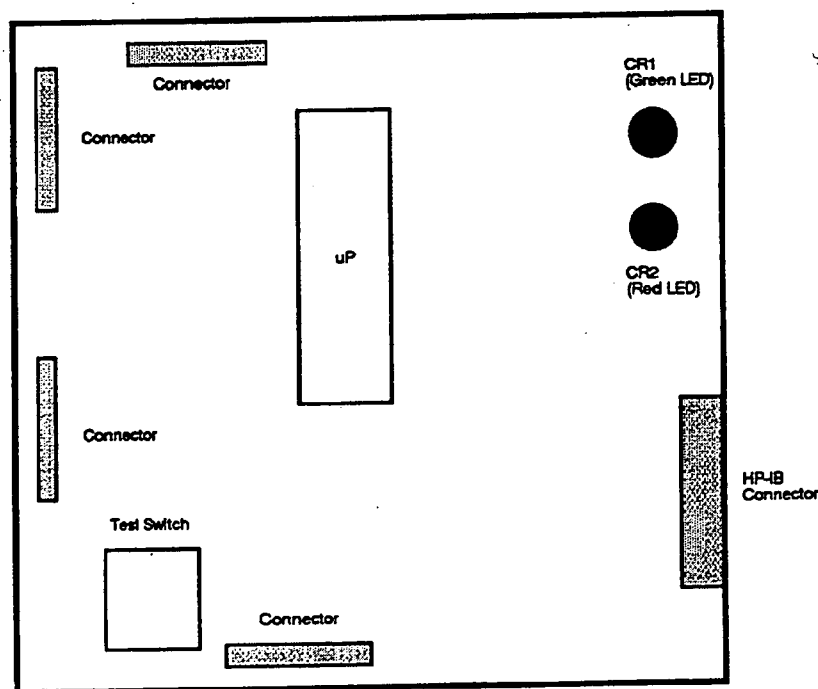

Figure 8-2. Processor Assembly Test Switch Location
- e. Remove the 7 Pozidriv screws holding the Front Frame in position (see Figure 8-2).